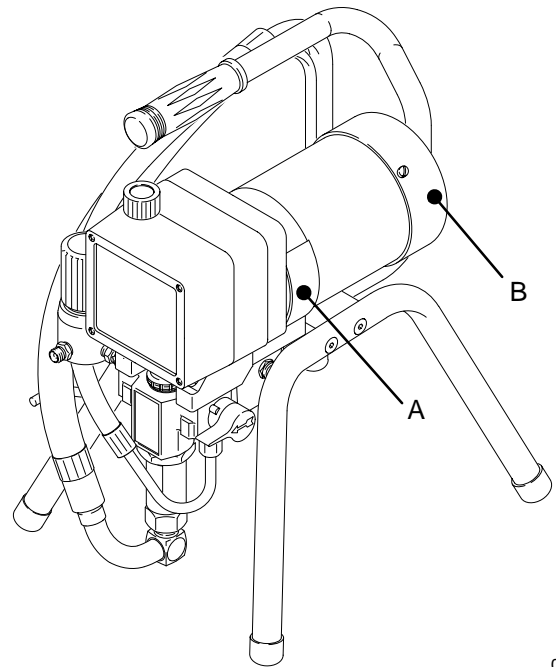

Fig. 12
Remove the motor brush inspection covers (A). See Fig. 12.
Remove the fan cover (B). See Fig. 12.